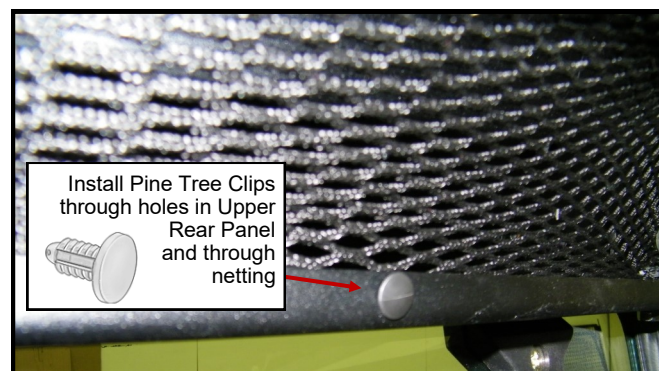

Figure 11.3: Cargo net center clips
- 11.3 Stretch the net to the bottom flange of the Upper Rear Panel and push a plastic pine tree clip through the holes in the flange and the bottom of the net **(Figure 11.3)**.